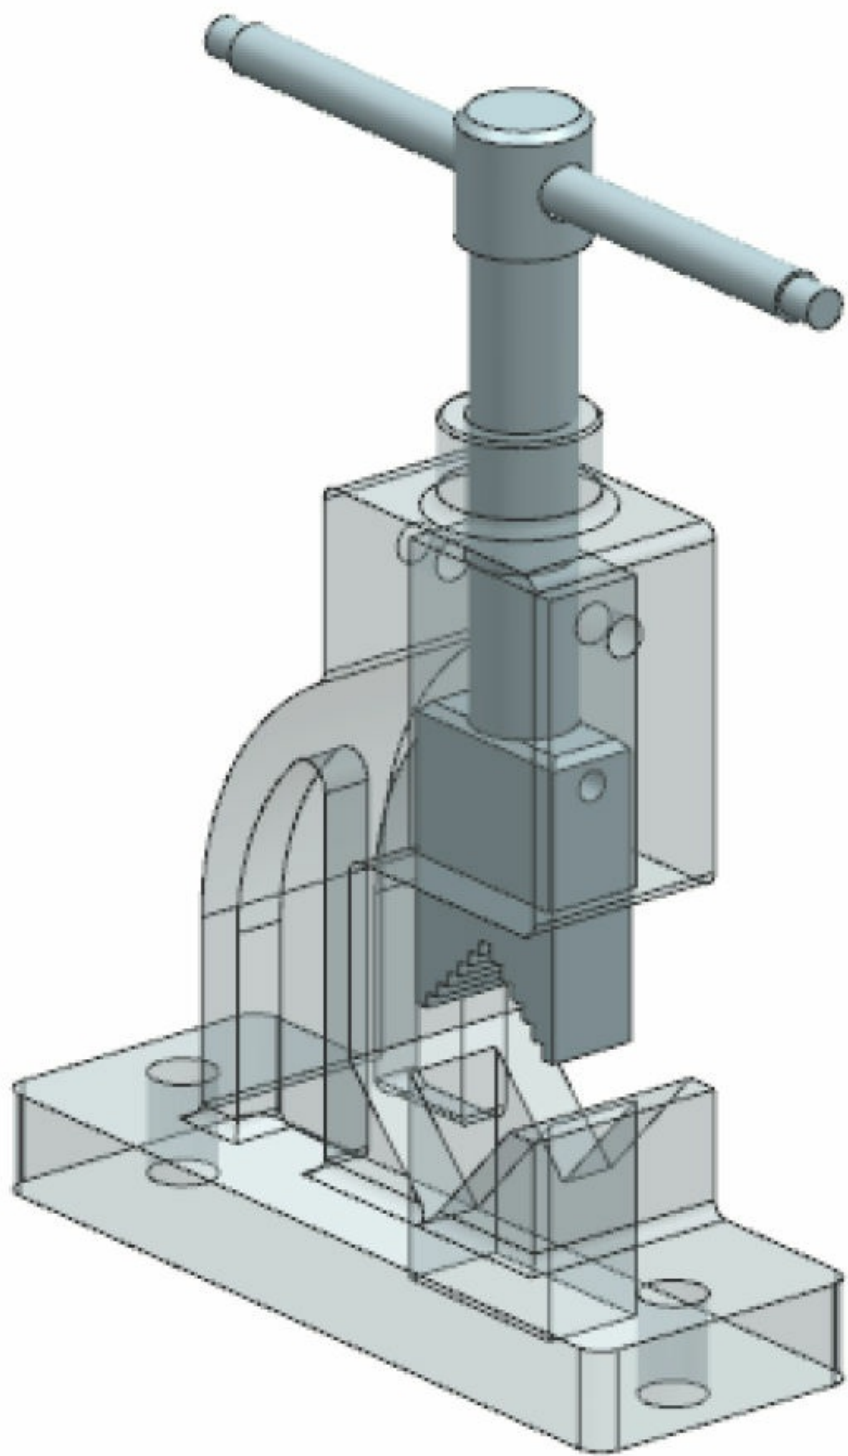

Figure 8-69 The assembly after assembling the Handle
11. Select the **MODEL** option from the list box of the dialog box. Next, choose the **OK** button; the display of the reference sets of the Handle and the Screw is changed. The assembly after assembling the Handle is shown in Figure 8-69.